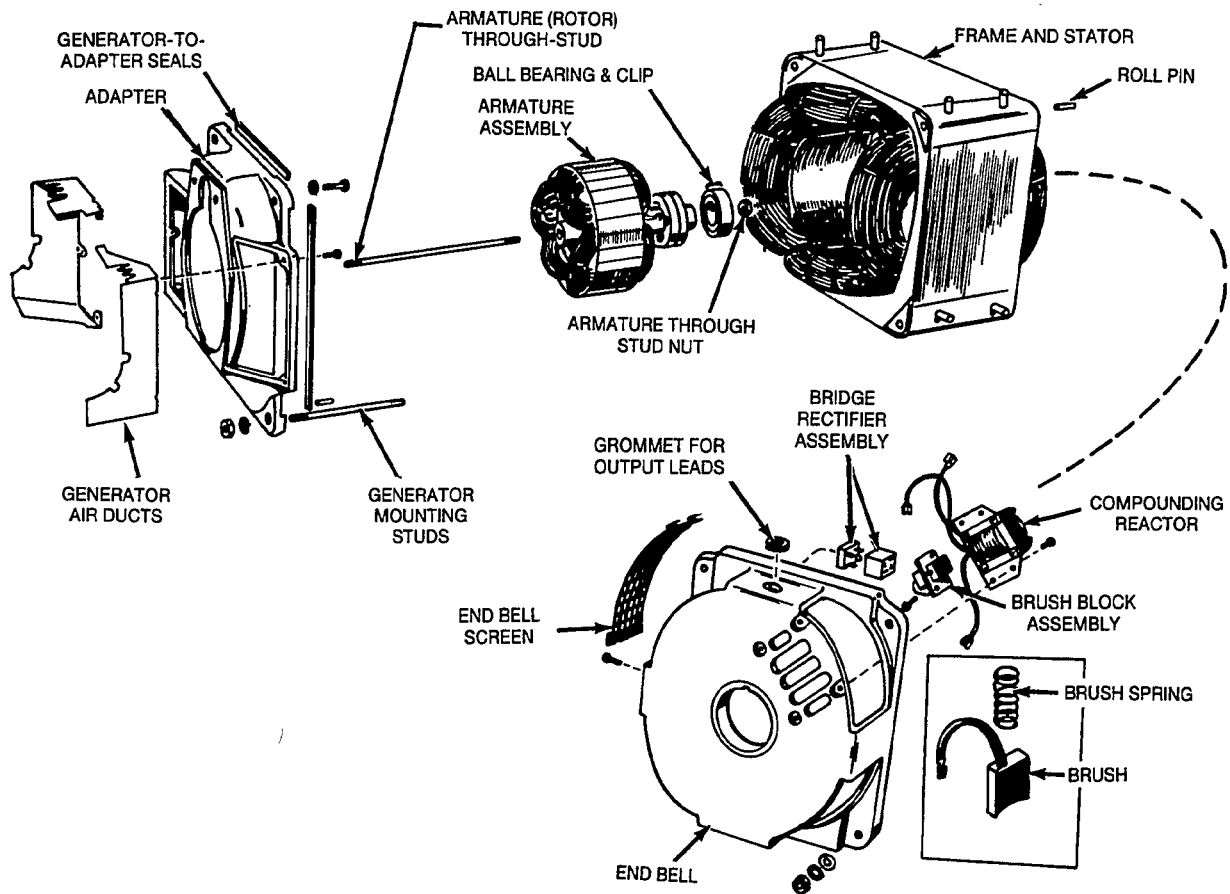

FIGURE 5-1. EXPLODED VIEW OF AC GENERATOR
4. Loosen and lift out both brush rigs (Figure 5-1).
To reach the brushes, remove the plastic end bell screens. (See Figure 5-1 for location of generator components.) Measure brush wear as shown in Figure 5-2, by inserting a small, narrow scale into the top of the brush block. If the brushes need replacing, remove and tag the wires connected to the brush blocks. Then remove the brush blocks and lift them out of the end bell. Pull the brushes and springs out from the bottom of the brush block. Clean the brush block at this time.